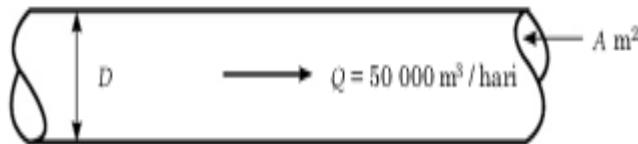

Figure A1(a) / Rajah A1(a)
- CLO2 (a) Identify the diameter of pipe with water flow rate of  $50,000 \text{ m}^3/\text{day}$  at a velocity of  $5 \text{ m/s}$ . (refer figure A1(a)).